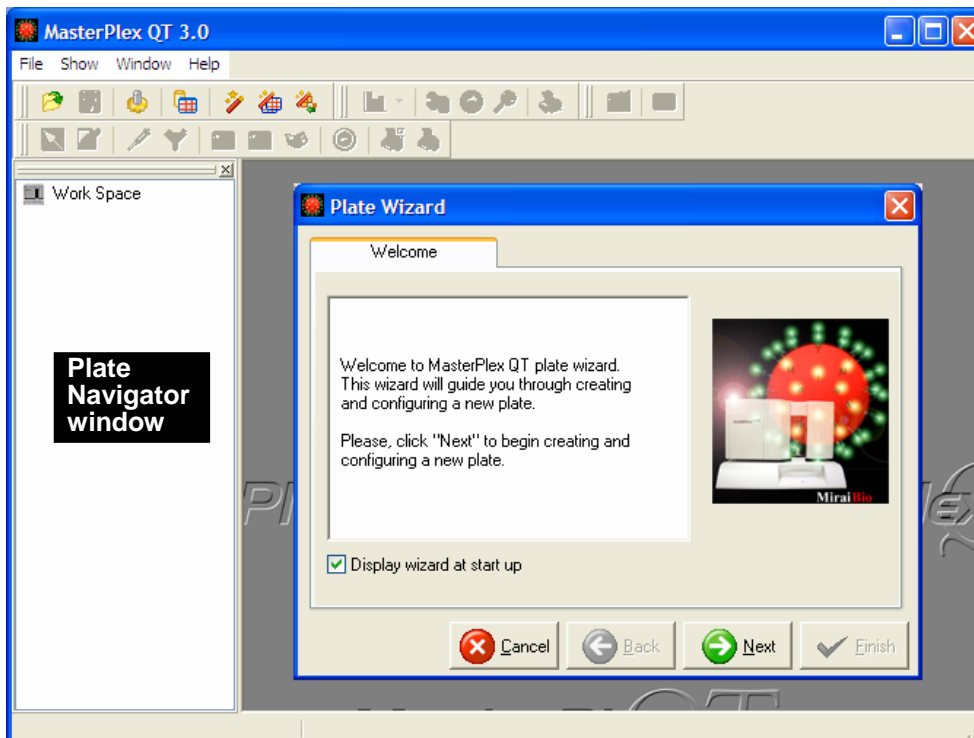

Figure 3.1 MasterPlex™ QT user interface
⇒ The MasterPlex QT user interface appears and displays the Plate Wizard and Navigator window (Figure 3.1).
- ⇒ The Plate Wizard appears (Figure 3.1).